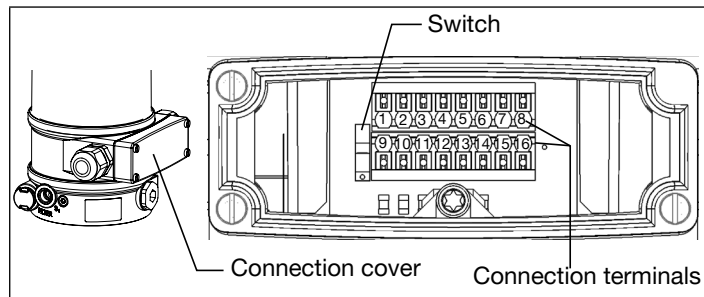

Fig. 15: Cable gland connection
** Position of the switch, see “Fig. 15: Cable gland connection”.
(see “Fig. 15: Cable gland connection”).